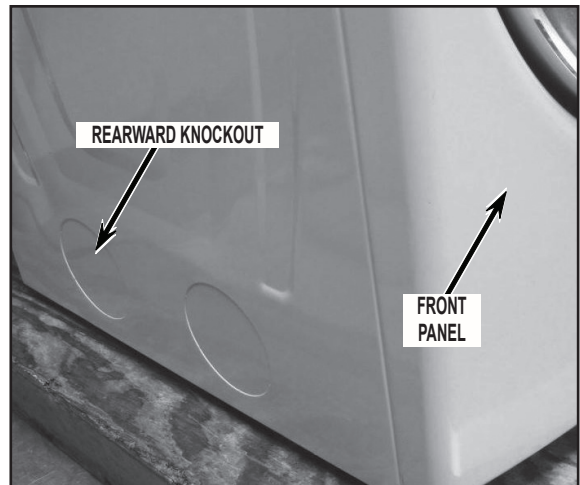

FIGURE 27
1. As you are facing the dryer, review the lower section of the left side panel. If two (2) knockout features are present remove the MOST REARWARD KNOCKOUT ONLY. See *Figure 27*.